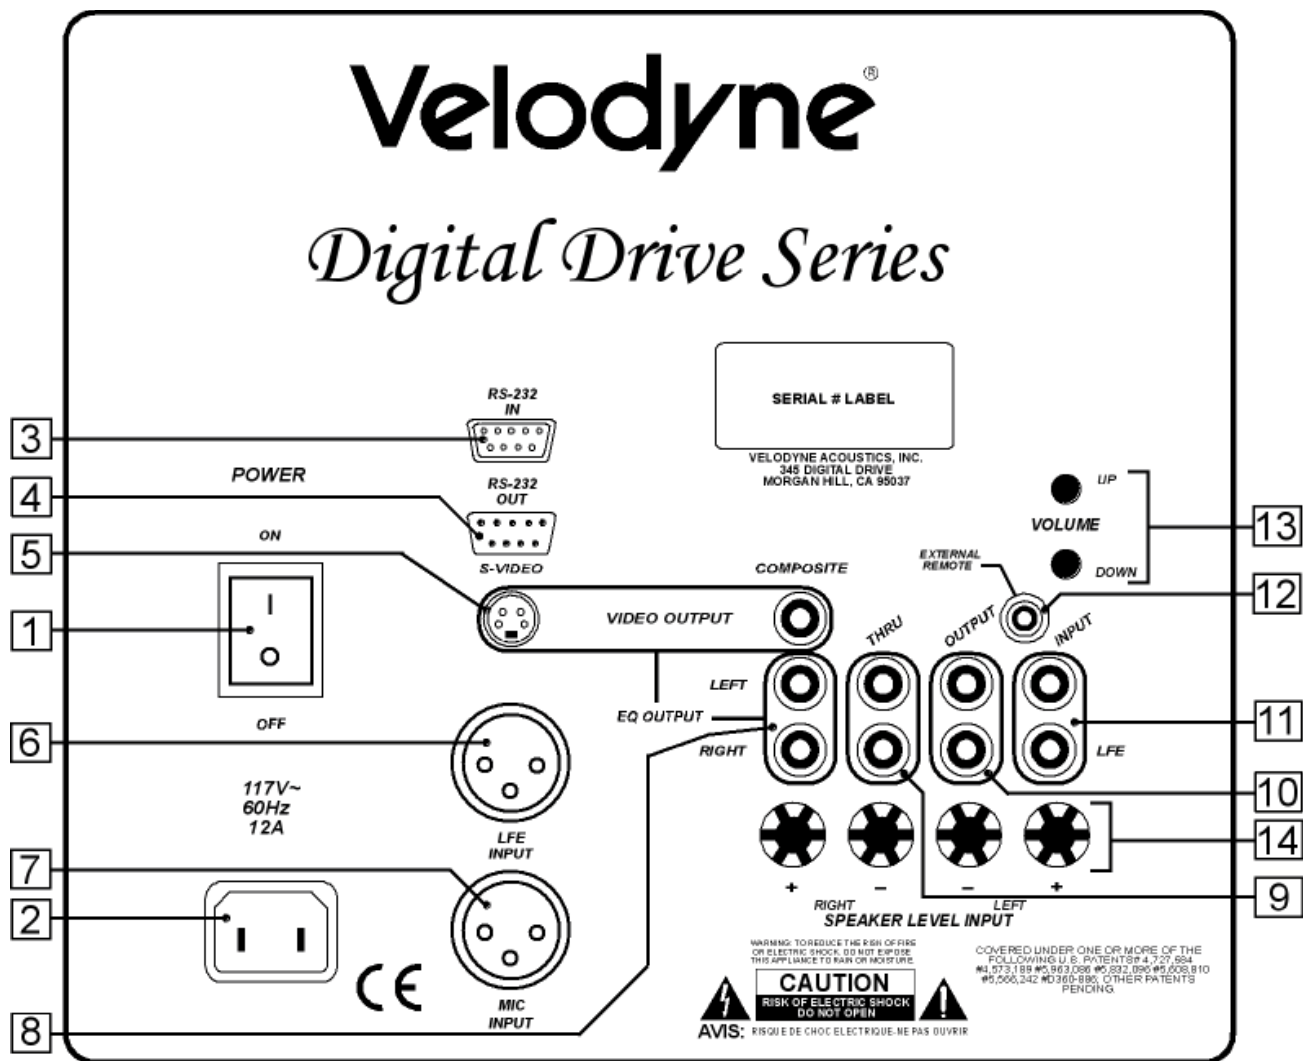

Figure 2: Digital Drive Rear Panel Connections
The Velodyne Digital Drive subwoofer is set up, configured, and adjusted by the controls, inputs, and connections located on the rear panel of the unit. Figure 2 shows the location of each of these important operational interfaces. Brief descriptions of each interface follow.
- a. LFE INPUT (RCA, the RED jack at location 11 on Figure 2) – This is the most common input cable connection. Make a connection between this input and the LFE output or the subwoofer output of your receiver or processor; OR
- b. LFE INPUT (XLR, location 6 on Figure 2) – Make a connection between this input and the balanced LFE outputs of your receiver or processor; OR
- c. INPUT, LEFT and RIGHT (location 11 on Figure 2) – Make a connection between these inputs and the stereo outputs of your receiver or processor; OR
- d. SPEAKER-LEVEL INPUT (location 14 on Figure 2) – Make a connection between these inputs and the left and right speaker connections on your receiver or processor. Make this connection by either inserting speaker wire into the correct binding post terminals or by removing the banana plug jack caps and inserting banana plug wire into the jacks.
4. Referring to Figure 2, Locations 5 and 8, connect the audio/video cable between your subwoofer (EQ OUTPUT VIDEO/LEFT/RIGHT yellow, white, and red respectively) and your electronics (receiver, processor, TV, etc.). Insert the color-coded cable plugs into the correct EQ OUTPUT receptacle – the yellow plug into the VIDEO jack, the white plug into the LEFT jack, and the red plug into the RIGHT jack. The opposite ends of this cable should be connected to your receiver/processor. The yellow VIDEO cable goes to an available composite video input (e.g. aux), and the white/red AUDIO (L&R) cables go to a corresponding audio input. Consult your receiver/processor and/or TV owner's manual for more information.
5. Insert the XLR microphone cable's 3-pin male plug into the MIC INPUT jack (location 7 on Figure 2) on the back panel of the subwoofer. For DD-15 and DD-18 units, a microphone jack is also located on the front of the unit for convenience.